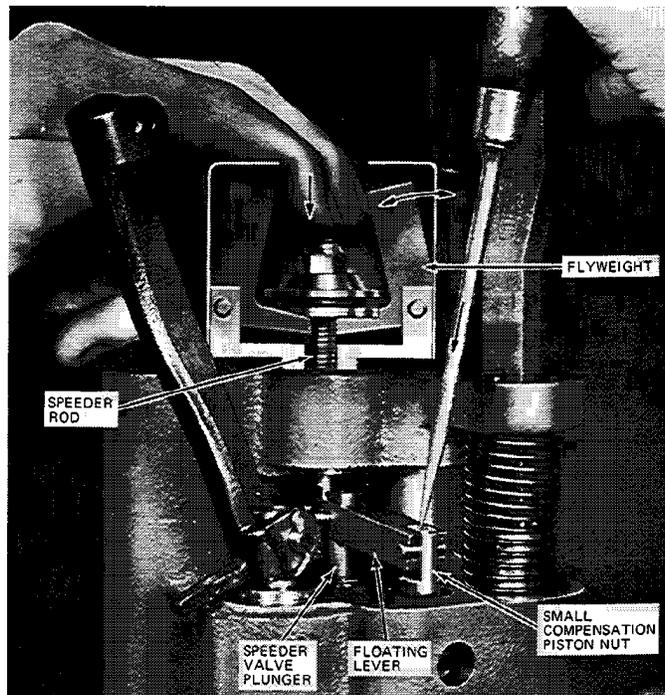

Figure 5-8. Centering Speeder Valve Plunger
- b. Depress the small compensation piston nut approximately 1/4" (6 mm) using a screwdriver and repeat step a (see Figure 5-8).